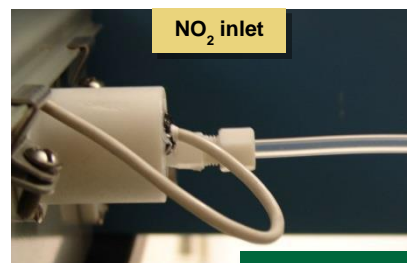

Figure 36
2. Connect the provided Teflon tubing to the NO2 inlet as shown in Figure 36. Teflon or stainless steel is the preferred tubing choice.